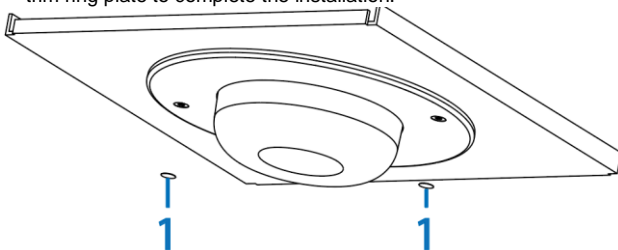

Figure 14
20. Insert the two mylars (1) (Figure 14) into the two screw holes on the trim ring plate to complete the installation.